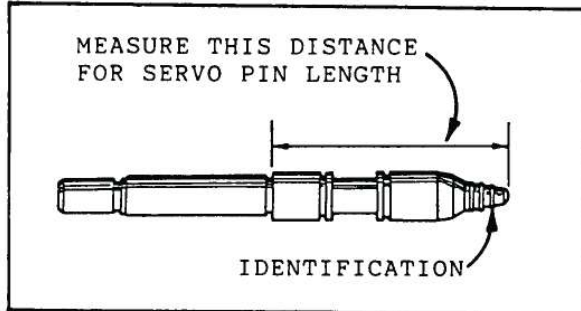

Figure 200
6. Figure 200 shows where to measure the pin to determine the length, or use the identification rings.